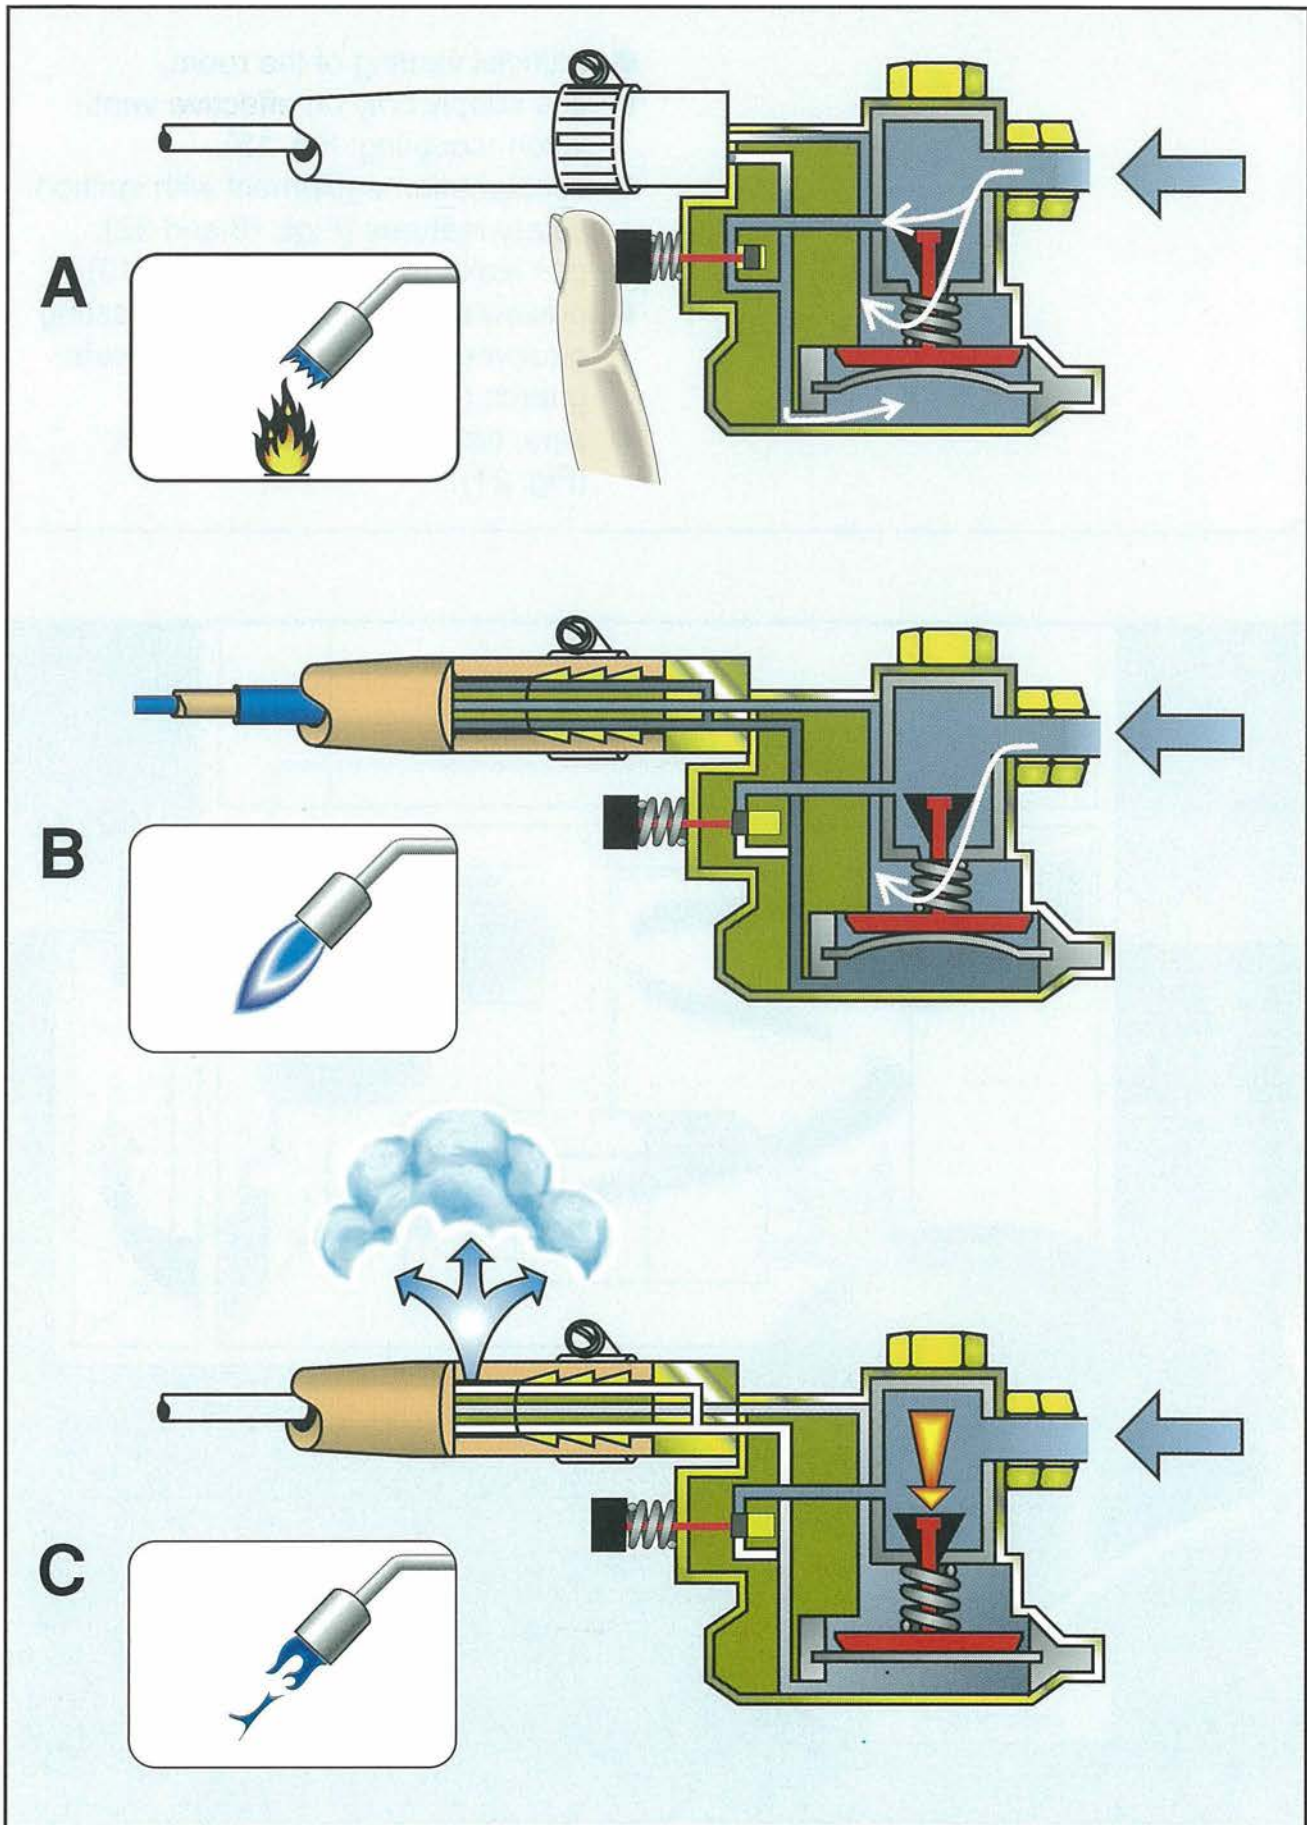

Fig. 19: Operating principle of a gas leakage safeguard (schematic)
- gas leakage safeguards (Fig. 19)